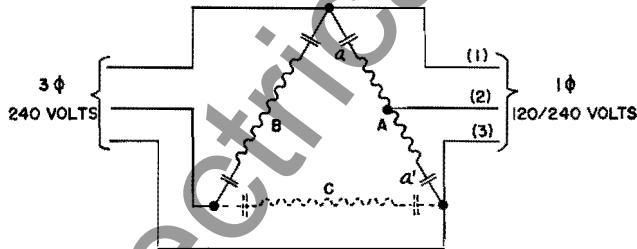

FIG. 9—CSP CONNECTIONS FOR COMBINED SINGLE PHASE 3-WIRE AND 3-PHASE LOADS. USE OPEN DELTA CONNECTION OMITTING DOTTED TRANSFORMER.
If standard CSP transformers are to be used to supply a combined 3-phase load and a single phase 3-wire load, it is important that only two transformers connected in open delta be used. The reason for this is shown by Fig. 9. Should an overload cause circuit breaker a-a' in transformer A to trip, then line wires (1) and (3) would still be fed by transformers B and C. The neutral (2) would float in potential and voltages (1)-(2) and (2)-(3) would be determined only by load impedances. Transformer C, shown dotted, should therefore be omitted and transformers A and B used in open delta.